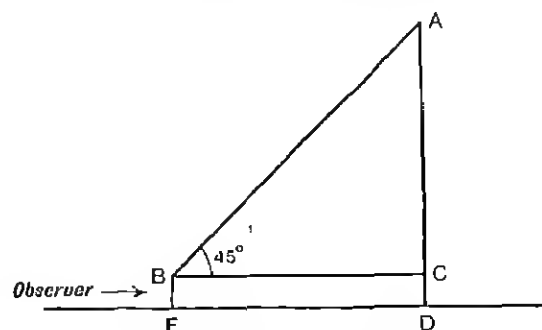

FIG. 70. MEASUREMENT BY 45° SET SQUARE
I. *Sighting by means of a 45° set square.*—This method is not easy. A point is found from which the angle of elevation of the top of the building is 45°. The height of the building is equal to the distance of this point from the foot of the building. The height of the eye of the observer must be added, Fig. 70.